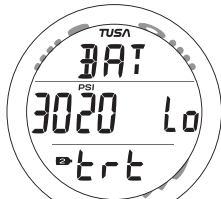

Fig. 6A - TRT BATT LOW
- if active and linked, TRT 1's Battery status will be displayed for 3 seconds (Fig. 6A), then -